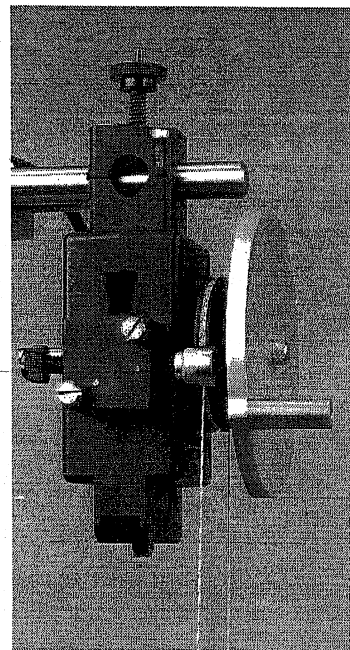

Figure 5: Magnetic Drag
8. Attach the magnetic drag accessory to the side of the Rotary Motion Sensor as shown in Figure 5.